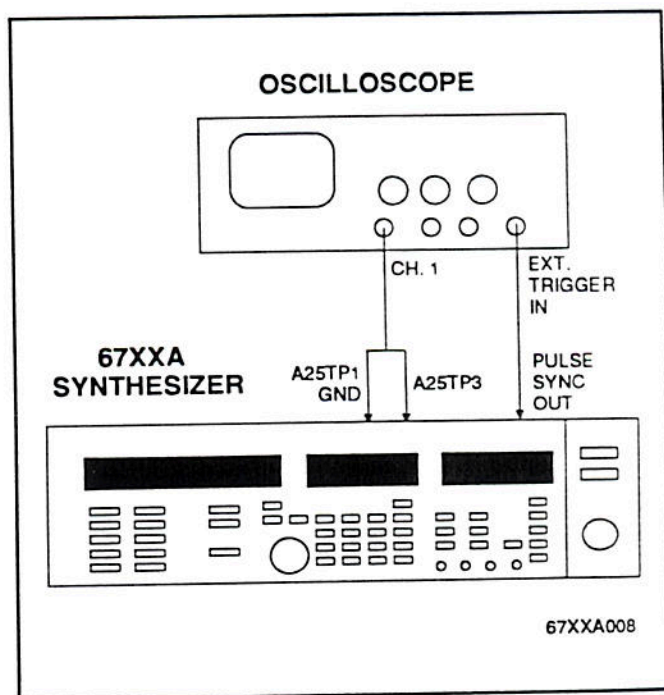

Figure 3-13. Power Supply Injection-Lock Calibration Test Setup
3. Connect the equipment as shown in Figure 3-13.